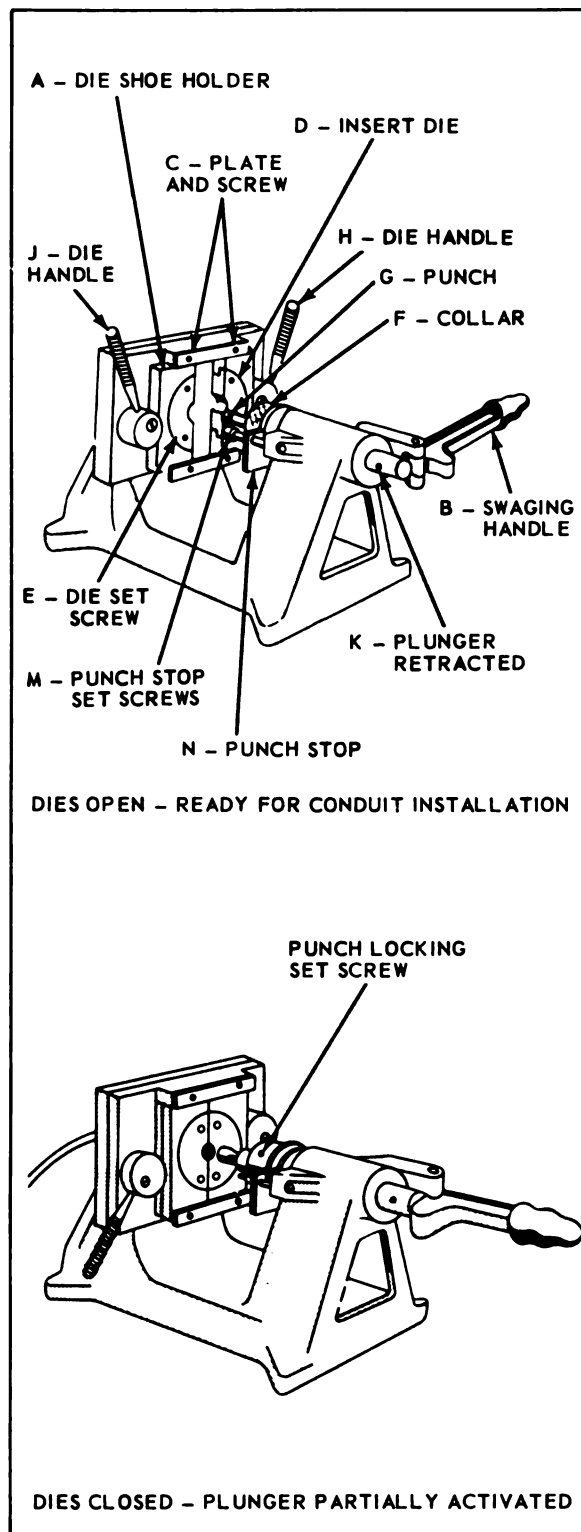

Figure 11-19. Breeze Ferrule Swaging Machine
- a. Place die shoe holder "A" in swaging machine as shown in figure 11-19. The countersunk portion should face swaging handle "B".
11-18. **FABRICATION OF FLEXIBLE BRASS CONDUIT.** Refer to figures 11-19 through 11-21. Fabricate flexible brass conduit, using Breeze swaging machine, as follows: